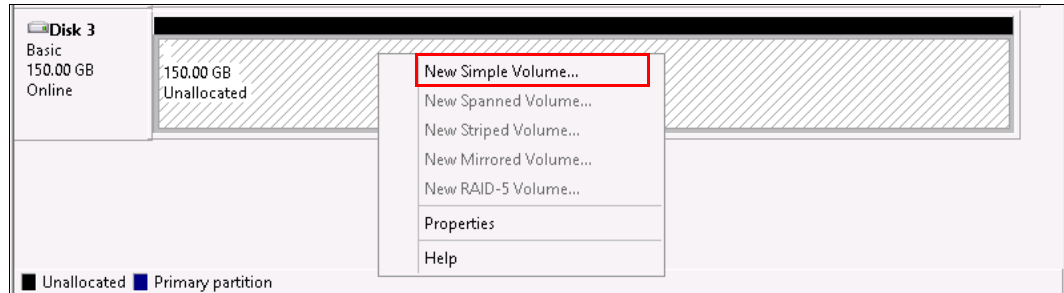

Figure 12-10 Create Volume type
10. Once initialized, the volume will be online, but it will need to be allocated and a *New Simple Volume* created, by right-clicking the volume as shown in Figure 12-10.